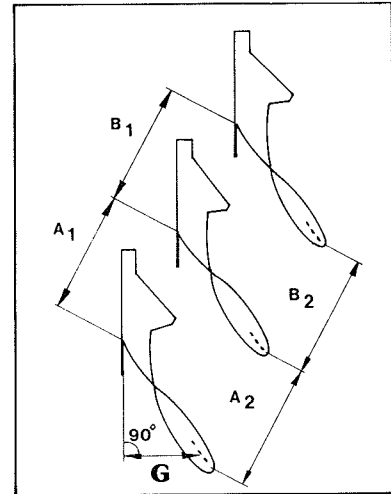

Fig. 22
3. Measure from these two bodies forward and adjust the mouldboard stays if necessary so that measurement $A_1 = A_2$, measurement $B_1 = B_2$ etc, see Fig 22.